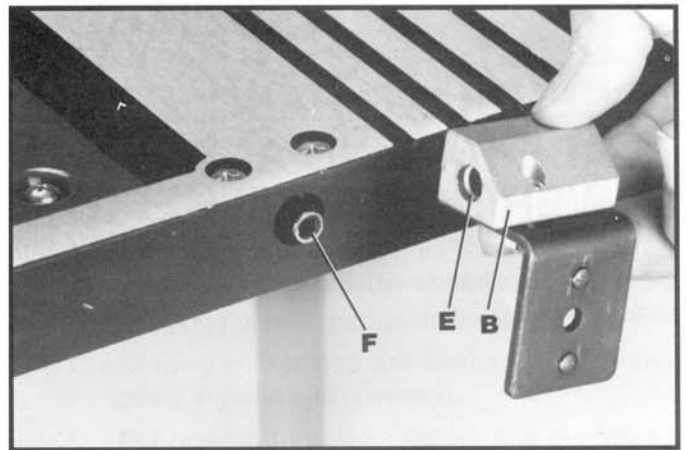
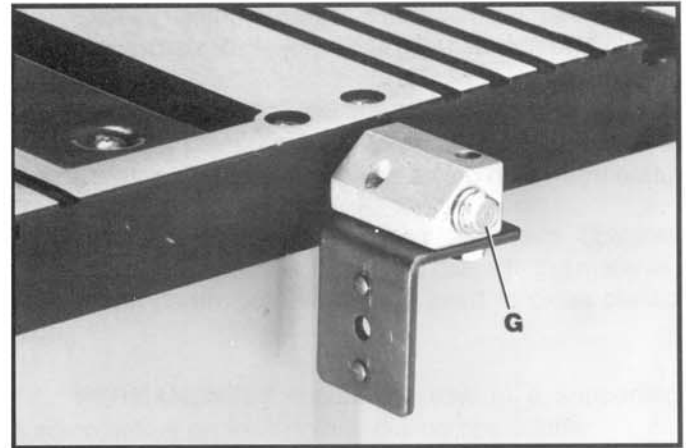

Fig. 5
Fig. 6
5. Position recessed end (E) Fig. 5, of splitter bracket (B) against end of pivot rod (F) and fasten in place using the 2-1/4 inch-long hex head screw (G) Fig. 6, 1/4 inch internal tooth lockwasher and 1/4 inch flat washer. Just snug up screw (G) at this time.